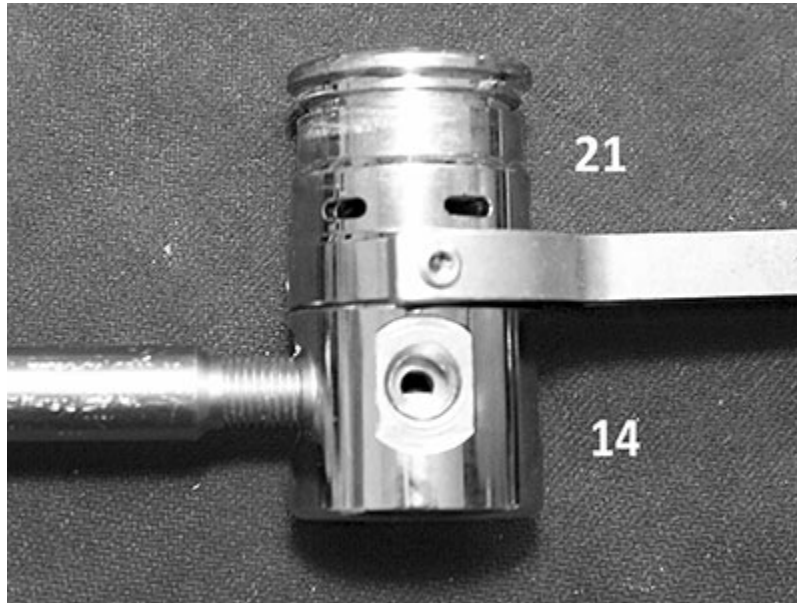

Fig. 11
6. Remove the holding tool from the vise and, using a 1.5 inch or adjustable pin spanner, loosen the Lower Body (21) from the Upper Body (14) - Fig. 11. Laying the regulator flat on the rubber pad and using even steady pressure will reduce the risk of damaging the Lower Body due to the spanner slipping.